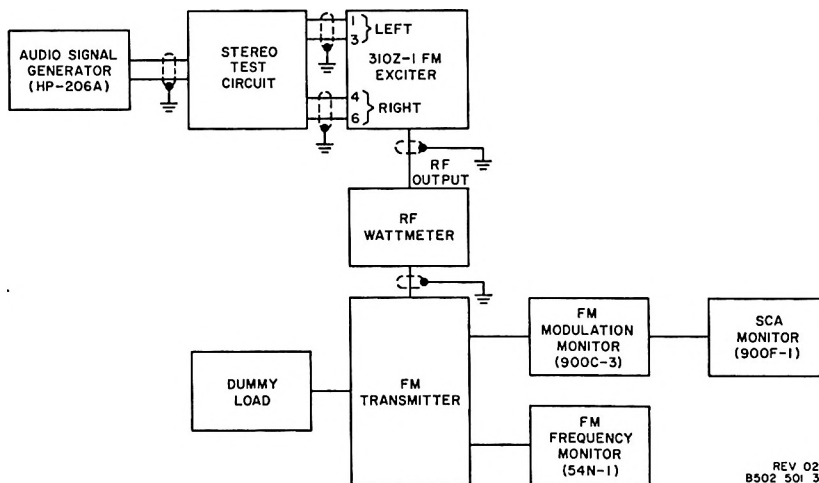

Figure 5-2. Test Equipment Connections to 310Z-1 for Adjustment and Test Procedures.
- a. Connect the equipment as shown in figure 5-2 and 5-3.
- a. With equipment still connected as shown in figure 5-2, connect vtm to test point A5TP2.
- a. Connect equipment as shown in figure 5-2.
- a. With equipment connected as shown in figure 5-2, set MODULATOR METER switch on FM modulation monitor to SCA MOD.
- a. With equipment connected as shown in figure 5-2, turn stereo test circuit switch to OFF.